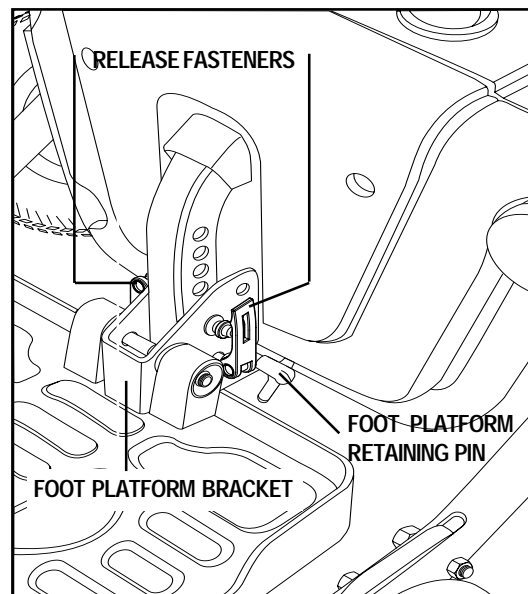

Figure 18. Foot Platform Adjustment
1. Remove the fasteners from the foot platform bracket. See figure 18.